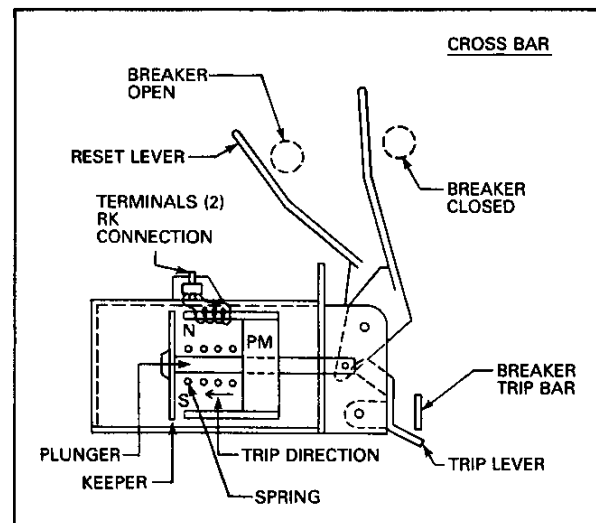

Fig. 2 Actuator Diagram
When the actuator receives a tripping current from the RK, it releases a mechanical force to trip the breaker. The actuator is made up of a permanent magnet and a spring (see Fig. 2). When the breaker is open, the cross bar pushes the reset lever. The reset lever moves the plunger out, and the plunger then compresses the spring and pulls the keeper until it contacts the pole pieces of the magnet. Although the magnet cannot pull and reset the keeper against the force of the spring acting on the plunger, it can hold the spring force when the keeper is in contact with the magnet. A tripping current from the RK unit counteracts the effects of the permanent magnet allowing the spring to separate the keeper from the magnet and move the plunger to actuate the trip lever.
- 3. Operate the actuator a few times. Alternately pull back on the reset lever (see Fig. 2) and then trip by applying 28 Vdc (be sure to use correct polarity) to the terminals.
- 2. Using a 28 Vdc source and after having closed the breaker manually, check tripping and reset functions of actuator, repeat numerous times to verify proper functioning. It may be necessary to bend reset arm for positive resetting of actuator, Fig. 2.